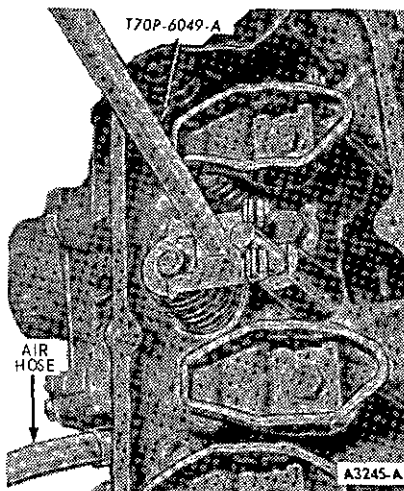
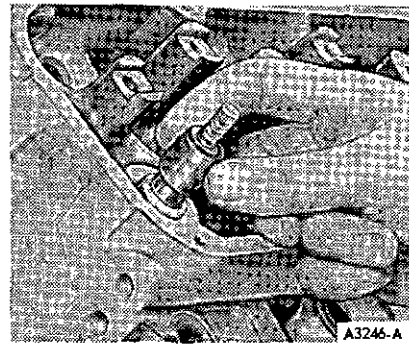

FIG. 35 Compressing Valve Spring-In Chassis
FIG. 36 Removing or Installing Valve Stem
5. Install Tool T70P-6049-A (Figure 35) and compress valve spring. Remove retainer locks, spring retainer, and spring. Remove and discard valve stem seal (Figure 36). **If air pressure fails to hold valve in closed position, valve damage affecting sealing is indicated. Remove and inspect cylinder head assembly.**
2. Lubricate the valve stems with heavy engine oil SE. Install new valve stem seal (Figure 36). Set spring and retainer over valve stem. Compress valve spring (Figure 35) and install retainer locks. Release spring and remove tool.